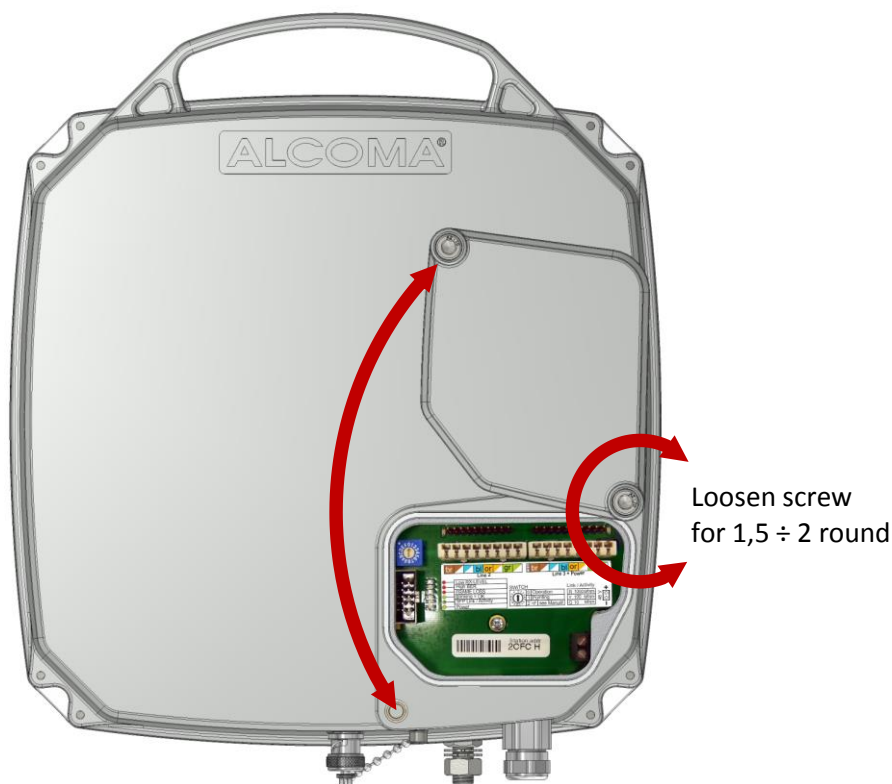

Figure 26 Manipulation with the user space cover
- The front panel with PCB is removed using a screwdriver (figure 2) or the cover of the terminal box space in ODU is opened using an Allen wrench no. 5 (figure 26).